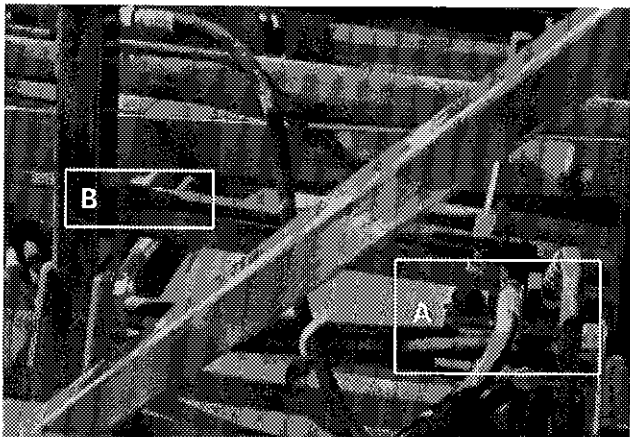

Figure 14
- 9) Check the operation of the bale pusher mechanism. It must operate freely and return to its starting position automatically. Should the valve (A Fig. 14) not engage positively, adjust the rod end clevis (B Fig. 14).